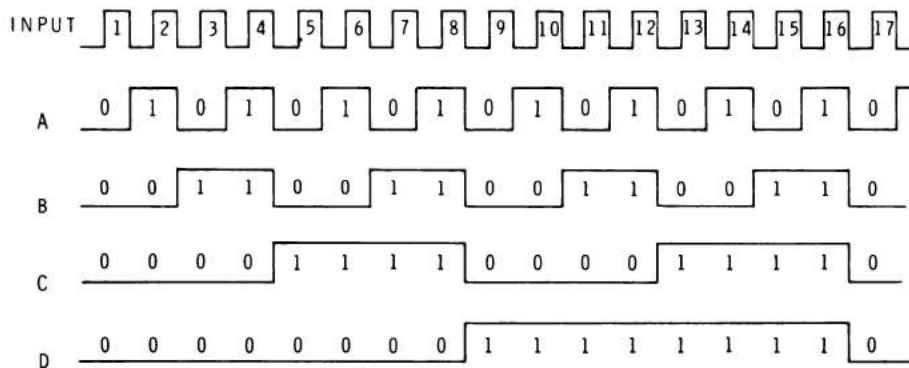

Figure 5-34
The complete operation of the four-bit binary counter is illustrated by the input and output waveforms in Figure 5-34. The upper waveform is a series of input pulses to be counted. Here they are shown as a periodic binary waveform; but, of course, it is not necessary for the input signal to be of a constant frequency or have equally spaced input pulses. The waveforms also show the normal output of each flip-flop.
In observing the waveforms in Figure 5-34, you should note several important things. First, all the flip-flops toggle (change state) on the trailing edge or the binary 1 to binary 0 transition of the previous flip-flop. With this in mind, you can readily trace the output of the first (A) flip-flop by simply observing when the trailing edges of the input occur.
Another important fact that is clear from the waveforms in Figure 5-34 is that the binary counter is also a frequency divider. The output of each flip-flop is one half the frequency of its input. If the input is a 100 kHz square wave, the outputs of the flip-flops are: